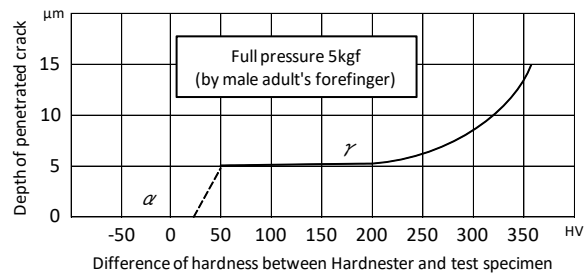
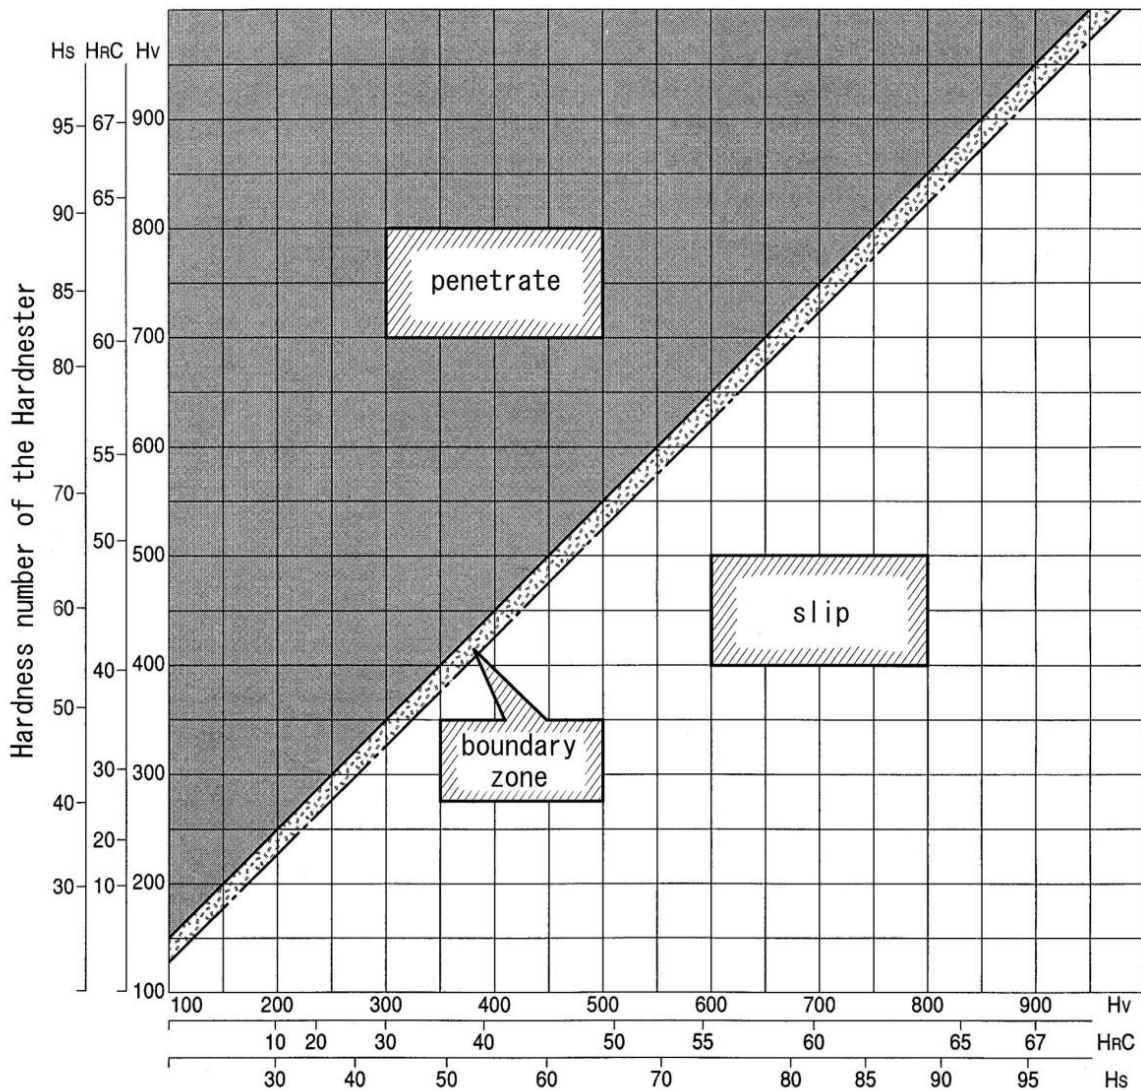

Fig.2 The difference in hardness between the Hardnester and test specimen
Fig.3 The hardness relationship between the Hardnester and specimens
(1) According to the results of our experiments shown in Fig.2, the difference in hardness between the Hardnester and test specimen when the touch measure does not slip and clearly penetrates (scratches) the specimen is around +50 or more in Vickers hardness. The difference in hardness when the touch measure clearly slips on the specimen and does not leave any scratches is around +25 or less. At between +50 and +25, the touch measure digs
The relationship shown in Fig.2 can be translated into the hardness relationship between the Hardnester (touch measures) and specimens as shown in Fig.3.
imum hardness of the touch measure that cannot penetrate the specimen at all (α), and reflect both results when judging the hardness of the specimen. The judgment chart in Fig.3 can be used conveniently for measuring the hardness of a specimen with the Hardnester. The boundary zone is the range within which the touch measure can scratch but might slip on the specimen. The solid line of the boundary zone adjacent to the penetrated area can be drawn with clarity, whereas the dotted line of the boundary zone adjacent to the slipped area is less clear.